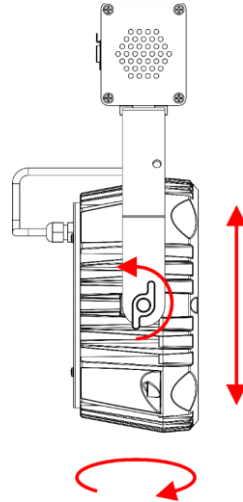

Fig. 08
- 01) Turn the **adjustment screws (15)** counterclockwise to release them.
- 02) Tilt the device to the desired angle (see Fig. 08).
- 03) Turn the **adjustment screws (15)** clockwise to tighten them. Make sure that the device cannot move freely after the **adjustment screws (15)** are tightened.